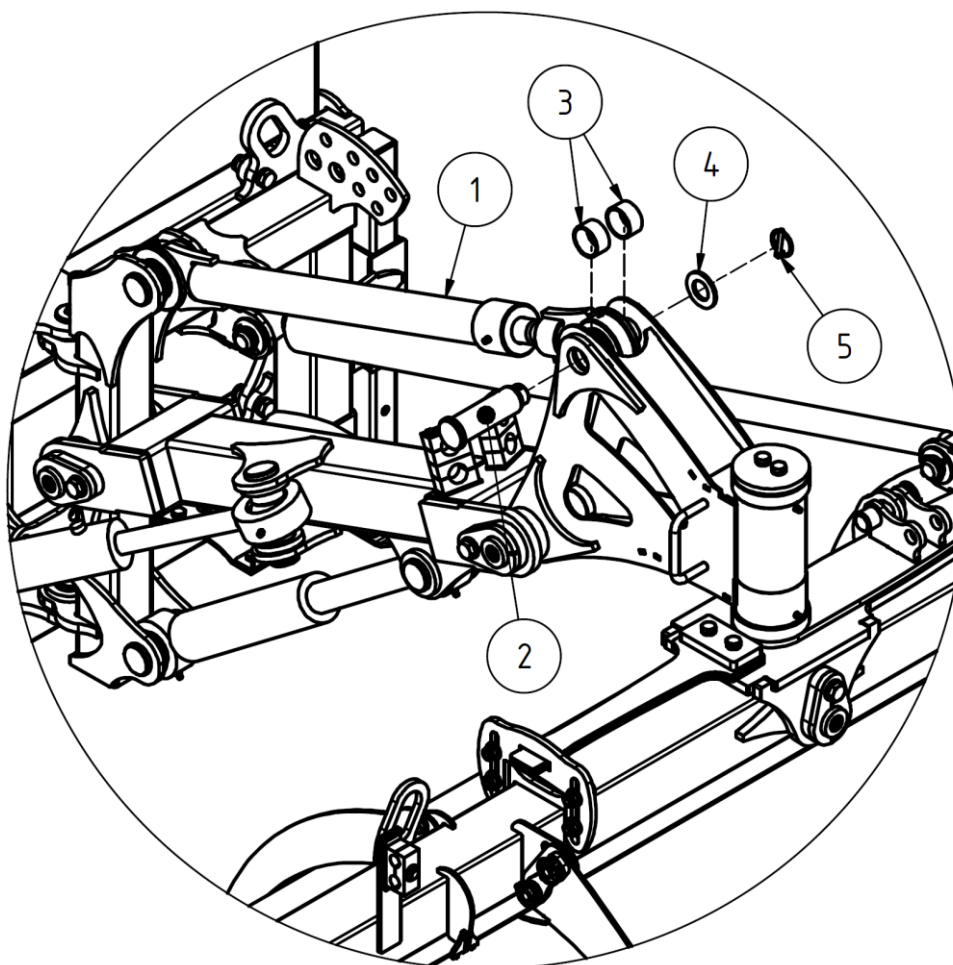

Figure 10 – Disconnection of the parallelogram bar
For vertical adjustment of the fore part of the brush, first the vertical section of a brush fixed to the vehicle shall be lifted with lifting cylinder to such height that bristles do not touch the ground. After this, the fore part of the brush shall be supported by a lift or a telfer. Then remove the upper axle (2) of the bar of the parallelogram (1, Figure 10), distance bushes (3), washer (4) and round split pin (5). Now the threaded end of the bar can be turned inwards or outwards, changing correspondingly total length of the bar and position of the front section of the brush. If correct length of the bar is achieved, it shall be fixed again with axle, distance bushes and fixing details.